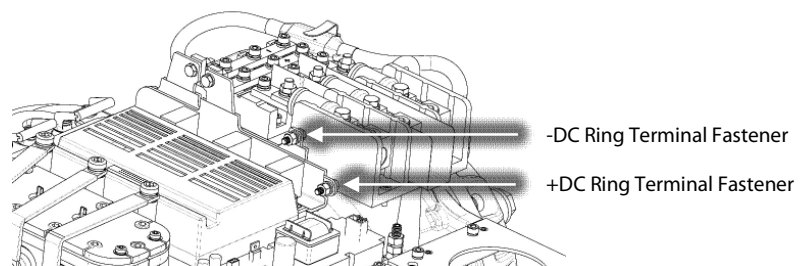

Figure 9 – DC Ring Terminal Removal (TTS300/TGS230)
- b. Disconnect the two (2) -DC ring terminals from the -DC bus bar by removing the attaching hardware. Refer to Figure 9 – DC Ring Terminal Removal (TTS300/TGS230) for this and the following step.